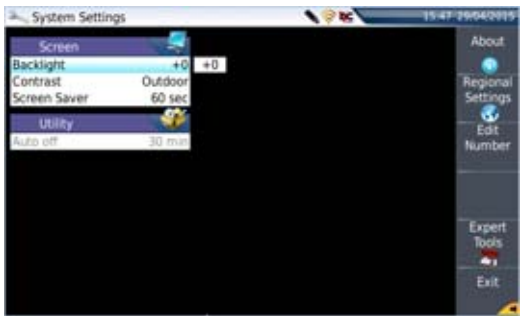

Fig. 10 System Settings page
- **Indoor**: to be selected when the instrument is used inside (see Figure 10 on page 20)